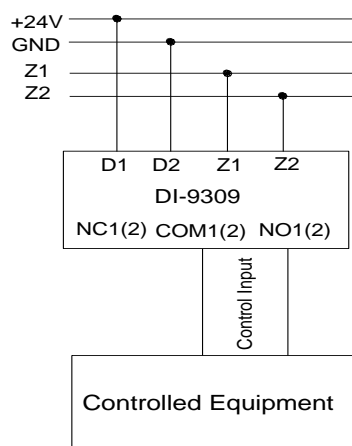

Fig. 3
- 2) Fig.3 shows the system connection with dry contact output.